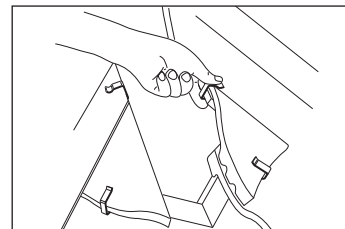

Fig. 4 – Clip all small pieces of tile along hip
- 4 Ensure that all raking cut roof tiles along the length of hip are secured using the head 'C' clips and tail clips provided (Figs. 4 and 5).